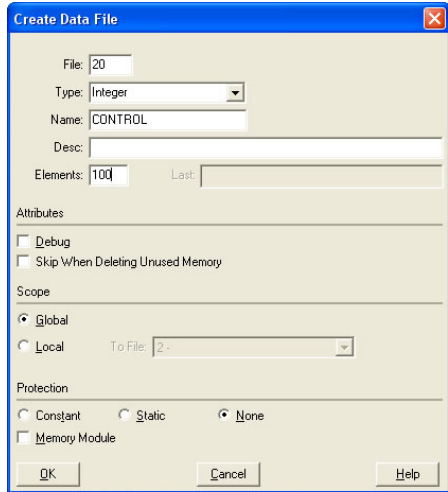

Figure 108: Creating a Control File
- a) Right click Data Files and select New... The "Create Data File" dialog box appears (refer to Figure 108).